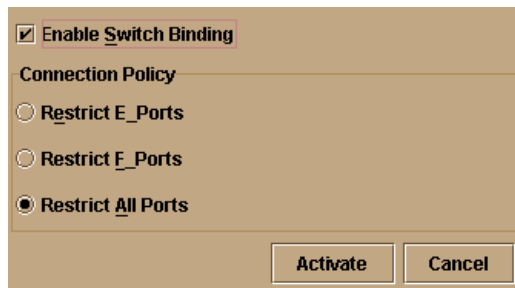

Figure 2–28: Switch Binding State Change dialog box
1. Choose the **Configure > Switch Binding > Change State** from the **Product Manager** window. The **Switch Binding State Change** dialog box displays, as shown in Figure 2–28.